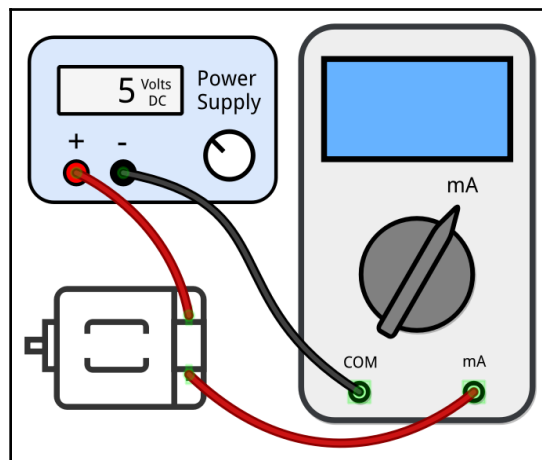

Figure 7.3 – Measuring current with a multimeter
1. Connect up a circuit as shown in *Figure 7.3*:
1. We attach an LED and a $1k\Omega$ resistor (or a relay) in place of the motor shown in *Figure 7.3*.